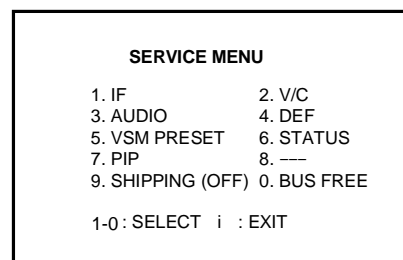

Fig.1
<p>(4) Check and set SYSTEM CONSTANT SET It must not adjust without signal.</p> <ol style="list-style-type: none"> 1) Press the INFORMATION key and the MUTING key of the REMOTE CONTROL UNIT simultaneously. 2) The SERVICE MENU screen of Fig. 1 will be displayed. 3) While the SERVICE MENU is displayed, press the INFORMATION key and MUTING key simultaneously, and the SYSTEM CONSTANT SET screen of Fig. 2 will be displayed. 4) Check the setting values of the SYSTEM CONSTANT SET of Table 1. If the value is different, select the setting item with the FUNCTION UP/DOWN key, and set the correct value with the FUNCTION LEFT/RIGHT key. 5) Press the MENU(OK) key to memorize the setting value. 6) Press the INFORMATION key twice, and return to the normal screen.